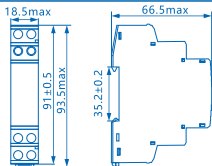

Fig. 1 Outline and Installation Size
3.1 Outline and installation size: see Fig. 1, unit: mm.